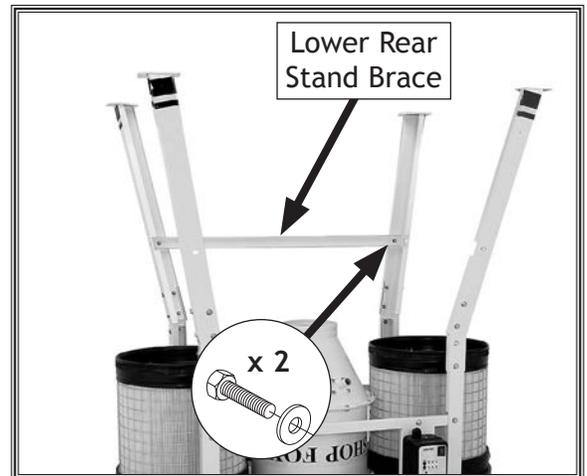

Figure 17. Lower rear stand brace attached to the lower stand legs.
- Attach the lower rear stand brace to two of the lower stand legs with (2) $\frac{3}{8}$ "-16 x $\frac{3}{4}$ " hex bolts and (2) $\frac{3}{8}$ " flat washers, as shown in Figure 17.